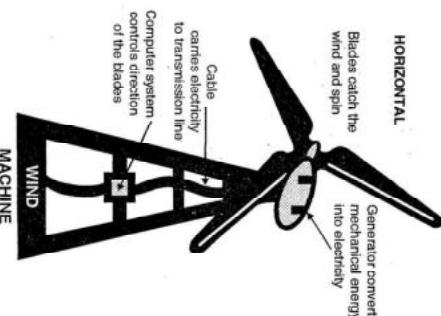

Fig. 4.6.1
- As shown in Fig. 4.6.1 such machine have three blades similar to the propellers of airplanes.